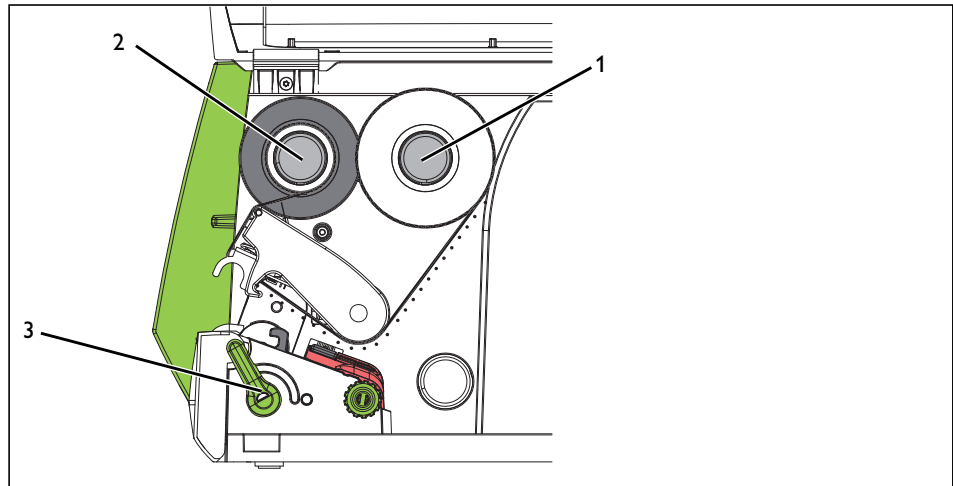

Figure 2-5 Feed path of the ink ribbon
- To lift the printhead, turn the green lever (3) counterclockwise.
- Push the ink ribbon roll onto the supply hub (1) so that the color coating of the film faces downwards during unwinding.
- The Phoenix Contact ink ribbon rolls for this printer have the color coating on the outside of the winding. Observe the unwinding direction shown in Figure 2-5. **If the color coating is positioned incorrectly, the film will stick to the printhead.**
- Push the empty core of an ink ribbon roll onto the take-up hub (2).
- Guide the ink ribbon through the printing unit as shown in Figure 2-5. Guide the ink ribbon through above the label sensor.